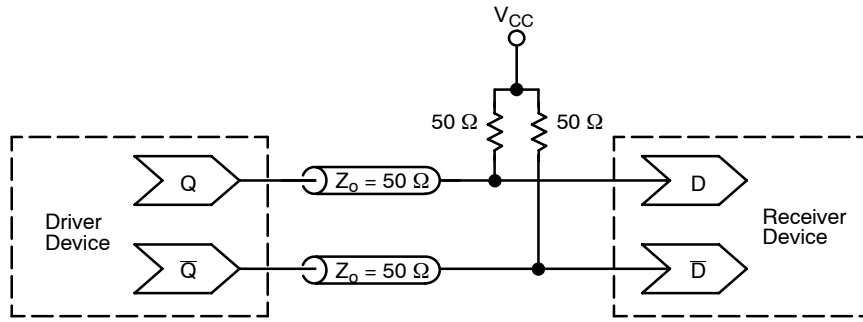

Figure 9. Typical Termination for Output Driver and Device Evaluation
- CML outputs require $R_L = 50\ \Omega$ receiver termination resistors to V_{CC} for proper operation. (See Figure 9)
RSECL, PECL, NECL	Standard ECL Termination Techniques (See Figure 9)